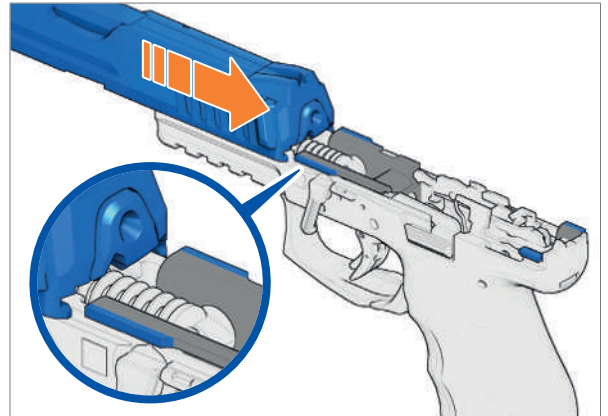

Fig. 70: Push slide over guide-rails
5. Place slide onto frame from above and push over the guide-rails of the frame (*Fig. 70*).